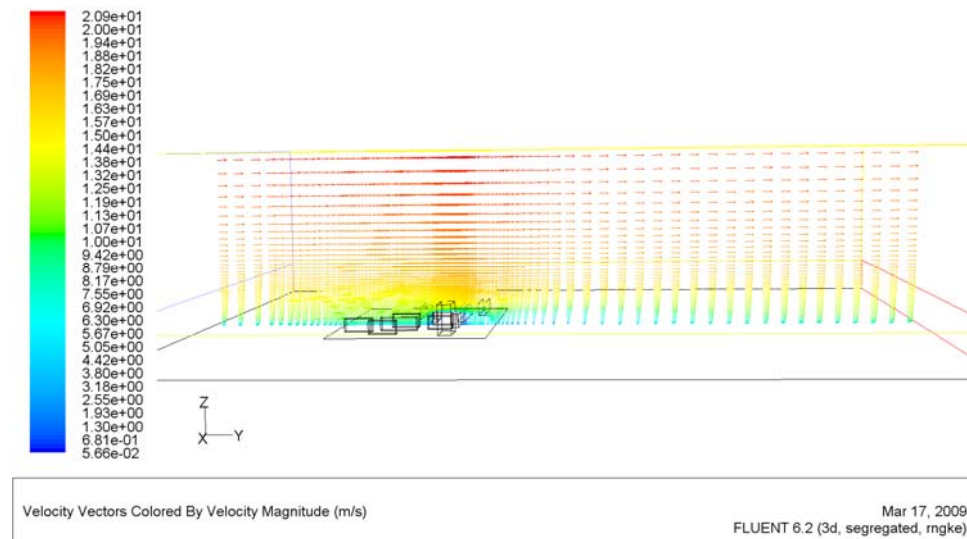

Fig. 23 Vectors at the middle plane.
- Now the vectors is copied to the clipboard which can be pasted to other programs (see Fig. 23).*